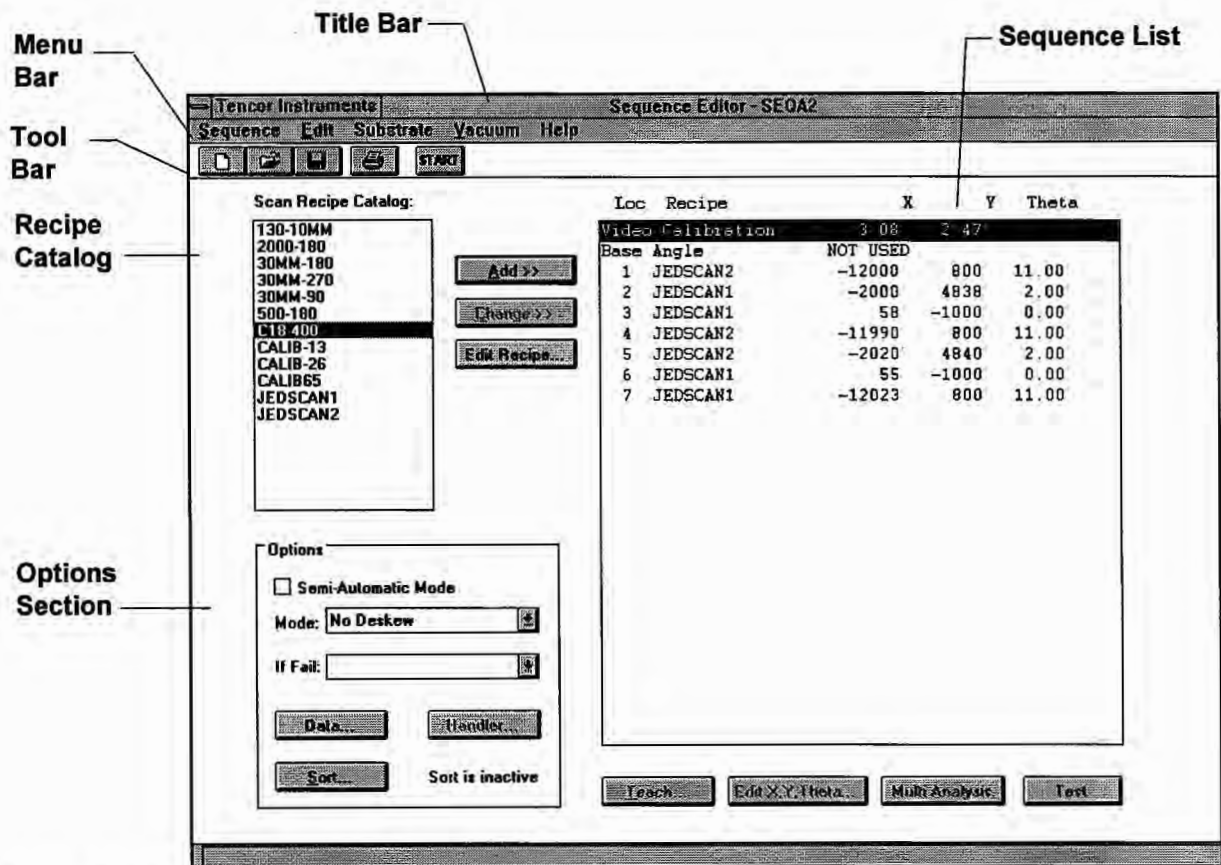

Figure 8-2 Sequence Editor Window
2. Click on the View/Modify button below the list of sequence recipes, or double-click on any of the sequence recipes in the list. The Sequence Editor window appears (Fig. 8-2).